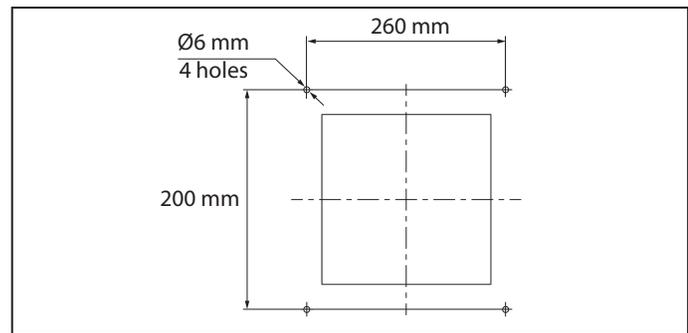

Fig. 7b.
• Fig. 7b - for the VENTO Solar V60 S Pro / S Pro2 models.